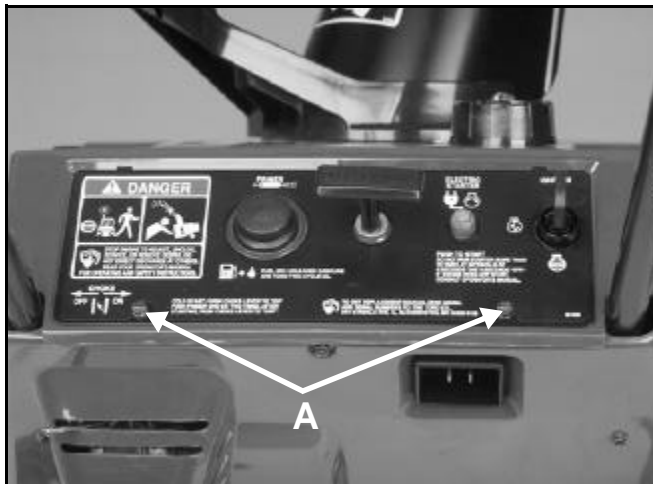

Figure 138
4. Remove the two screws holding the dash in position (Figure 138).